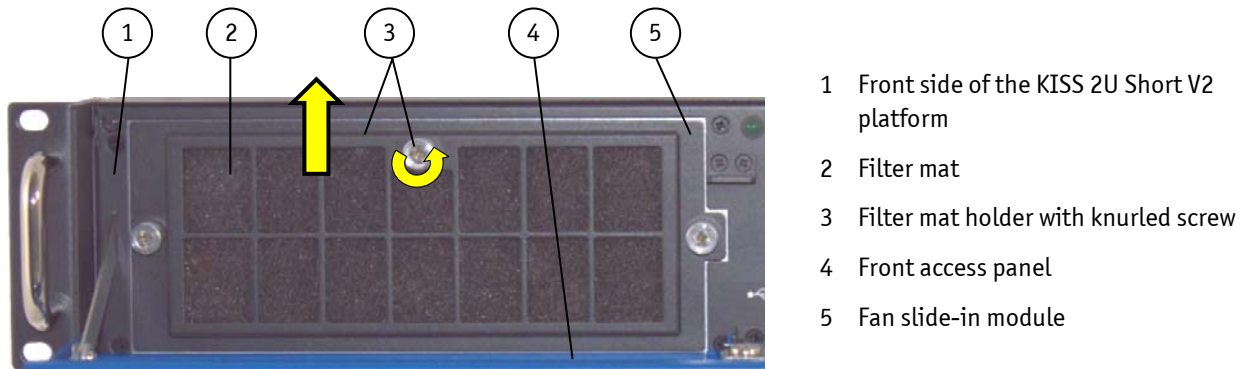
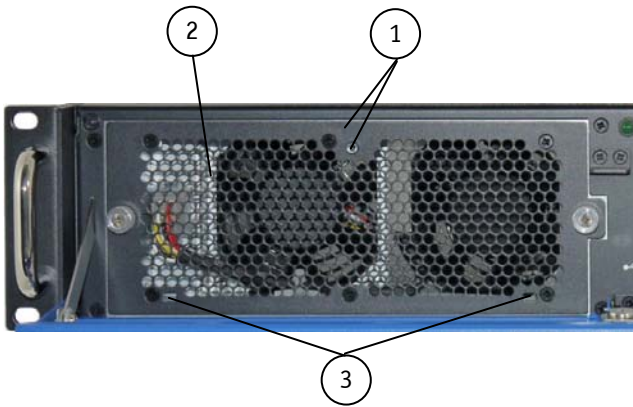

Fig. 40: Detail with filter mat holder on the front side of the KISS 2U Short V2 platform
Fig. 41: Detail without filter mat holder on the front side
The filter mat is inserted in the filter mat holder at the front side of the fan slide-in module (Fig. 40, pos. 4). The soiling of the filter mat is caused by the pollution of the operating environment. A heavily soiled filter mat can cause excessive heating of the device. For this reason we recommend to clean the filter mat as often as necessary. The filter mat can be replaced during operation of the system.
1. Open the front access panel (Fig. 40, pos. 4).
2. Loosen the knurled screw that secures the filter mat holder to the fan slide-in module (Fig. 40, pos. 3 and Fig. 42, pos. 5).
3. Pull the filter mat holder out from the centring holes (Fig. 41, pos. 3) in the direction marked with the arrow (Fig. 40) and lift it off.
7. Reattach the filter mat holder to the front side of the fan slide-in module by inserting the centring latches (Fig. 42, pos. 6) into the centring holes (Fig. 41, pos. 3).
8. Fasten the filter mat holder by tightening the knurled screw (Fig. 42, pos. 5) to the bolt with tapped hole (Fig. 41, pos. 1) at the fan slide-in module.
Legende für Fig. 41 und Fig. 42: